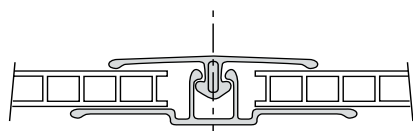

Figure 8
- a) A lower base profile (See Figure 8), generally the more rigid of the two profiles, on which the edges of the adjoining sheets are placed. (It is not to be fastened to the purlins).
- b) The cap profile clips onto the base profile by hand pressure, holding both sides of the adjoining sheets in place by mechanical pressure. (Fig. 8).